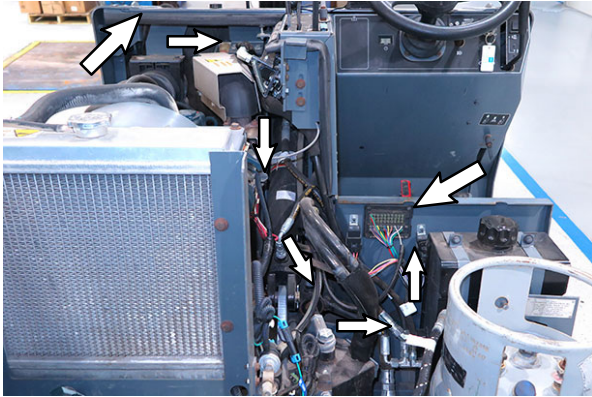

FIG. 8
16. **IC Machines Only:** Route the blue spotlight harness (6) rear harness lead and power in lead along the main wire harness connected to the filter shaker switch, down along the main wire harness/hydraulic hoses, and to the fuse box. (Fig. 8)